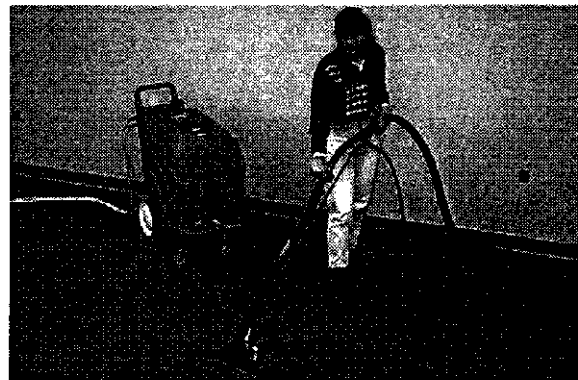

FIG. 7
2. Place floor tool so bottom of glide plate or stainless steel shoes are parallel to floor. Squeeze trigger and apply downward pressure on floor tool head and slowly pull tool backwards using both hands. Release trigger 150mm (6 in) from end of stroke (Figure 7).